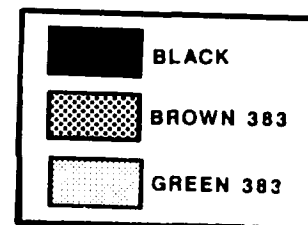
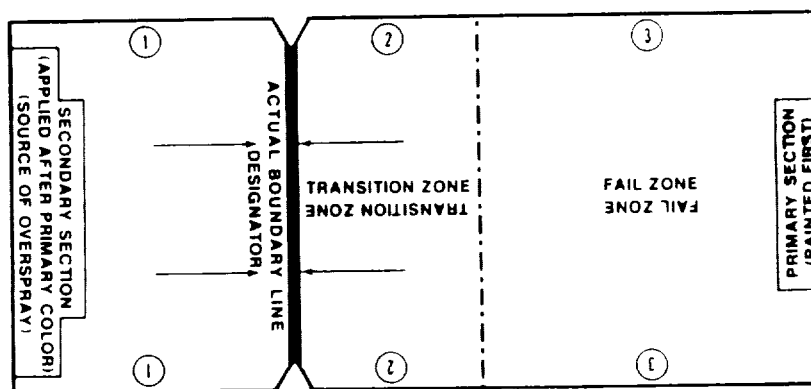

Figure 4-2. Markings on Camouflaged Equipment.
Figure 4-3. Overspray Gauge
Markings on CARC camouflaged equipment will be CARC in colors designated in figure 4-2.
- CPP designs, including inspection worksheet (para 4-3) and overspray gauge (fig 4-3)
- One (1) 6-foot steel measuring tape, graduated in sixteenths (or thirty-seconds) of an inch
- One (1) 6-foot steel measuring tape, graduated in tenths of an inch
- Overspray gauge (figure 4-2)
In this level of inspection, the borders are examined to ensure color definition. The contrast between color areas is key to CPP effectiveness, and, for this reason, overspray of one color into another color area must be minimized to a 1-1/2 inch tolerance. An overspray gauge (figure 4-3) is used to determine whether overspray on the applied CPP is within this narrow tolerance.
b. *Overspray Gauge.* The overspray gauge (figure 4-3) is a card-like, transparent sheet of plastic with white markings (to contrast with camouflage colors) which indicate the tolerance, or 'transition' zone. The gauge is overlaid on the border area; the actual border line is then located and aligned under the gauge boundary line DESIGNATOR, and the overspray is examined. When overspray extends into the 'FAIL ZONE', the failure location is noted by marking the notches at both ends of the gauge boundary line DESIGNATOR with chalk or soapstone.
- (1) Lay overspray gauge over border, so that FAIL ZONE lays over color area applied first.
- (2) Align DESIGNATOR, or boundary line marking, as close as possible to fog/boundary transition area, so that it is just short of overlapping spray, but so that no primary color can be seen in secondary section.
- (3) Examine overspray. If it extends into FAIL ZONE, record Level II failure as follows:
- (C) Make descriptive entry in notebook for painter/contractor debriefing.